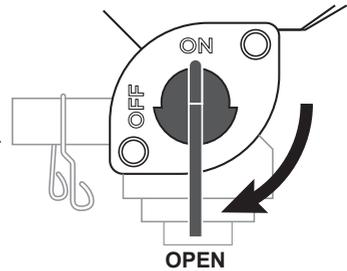

Fig. 5
1. Open the fuel valve (see Figure 5).
2. Open the fuel valve (see Fig. 5).